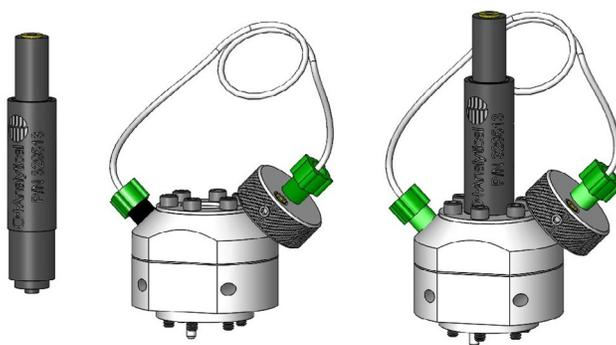

Figure 3.13.
3. Screw the reference electrode into the upper cell assembly (Figure 3.13).